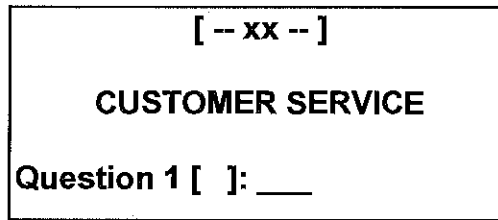

Figure 1
1. Observe the display on the Nida Model 130E Test Console and ensure that it looks like the example shown in Figure 1. Verify that your contestant number replaces the [-- xx --] shown in the example.